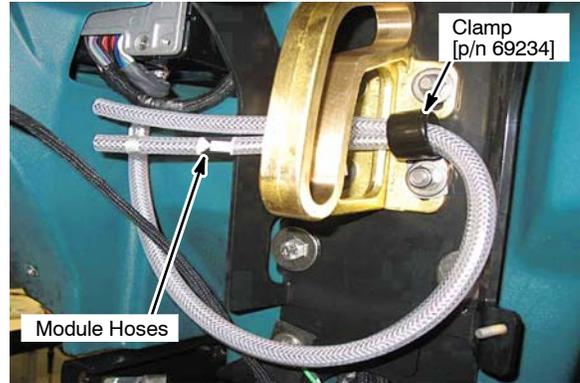

Fig. 39
- Install clamp [p/n 69234] and route the two *ec-H2O* module hoses as shown (Figure 39).